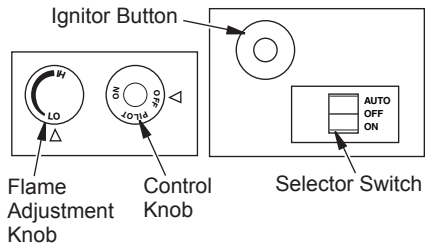

Figure 31 - Control Knob and Ignitor Button Location (Shown as Supplied, No Control Options)
5. Wait five (5) minutes to clear out any gas. Then smell for gas, including near the floor. If you smell gas, STOP! Follow "B" in the safety information in column 1. If you don't smell gas, go to the next step.
6. Press in and turn control knob counter-clockwise  to the PILOT position. Press in control knob for five (5) seconds (see Figure 31).